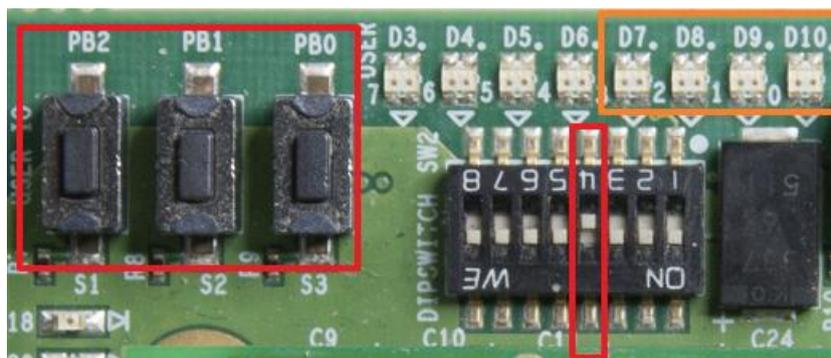

Figure 4-10 USER PBs/DIPSWs/LEDs locations on A10GFP board
- **Figure 4-10** Shows the locations of buttons/switches/LEDs on A10GFP board: